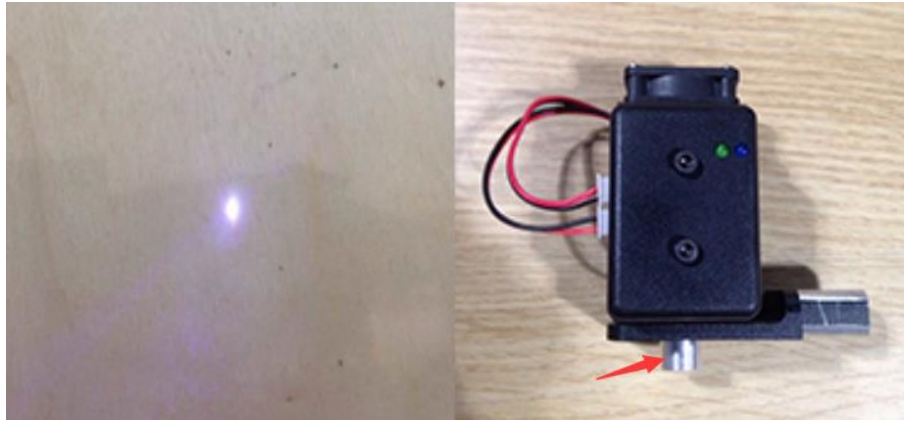

Figure 5.69 Adjust the laser focus
- If you cannot set the laser to be at its minimum focus, it's probably because the focal length is long. To shorten the focal length, slightly turn the sliver lens screw (as shown in Figure 5.69) on the bottom of the laser kit.